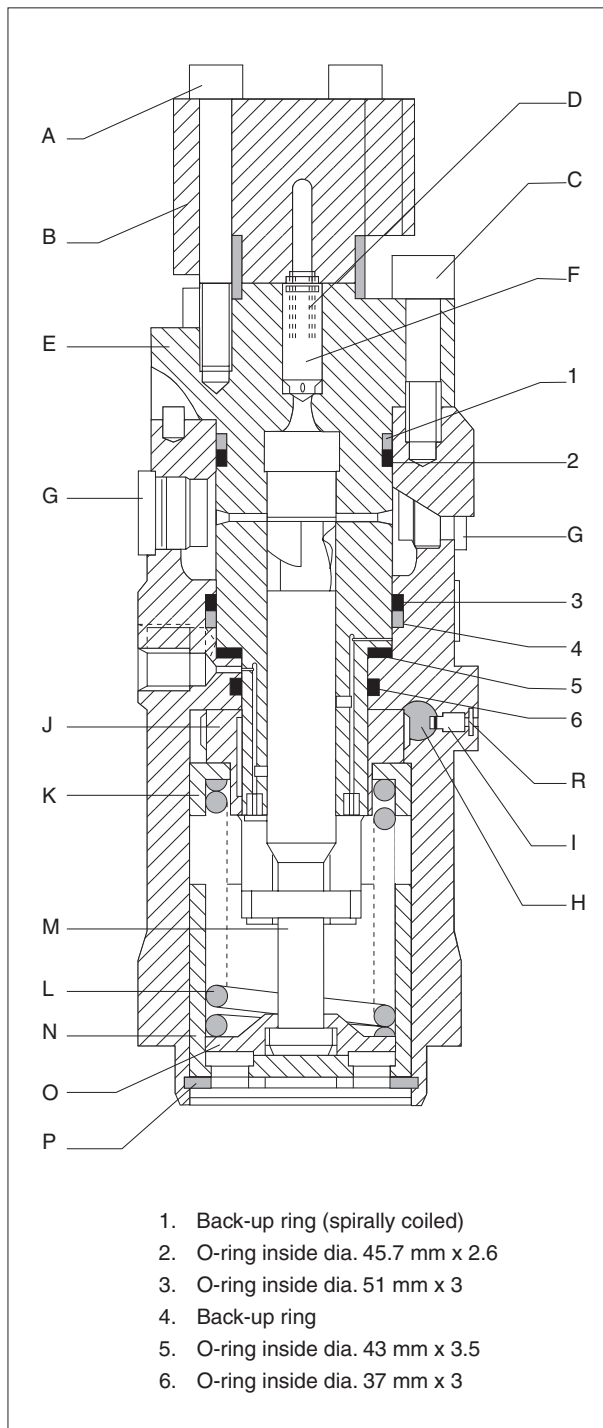

Fig. 2 Cross Section of Fuel Injection Pump
6. Mount the injection pump in the clamping bracket PYO-W020 (see plate 62014 item 03), on the test pump.
7. Press the thrust cap (N) fig. 2 downwards and remove the securing ring (P). Remove the thrust cap (N) with lower spring plate (O) and plunger (M). **Be sure not to damage the plunger.**